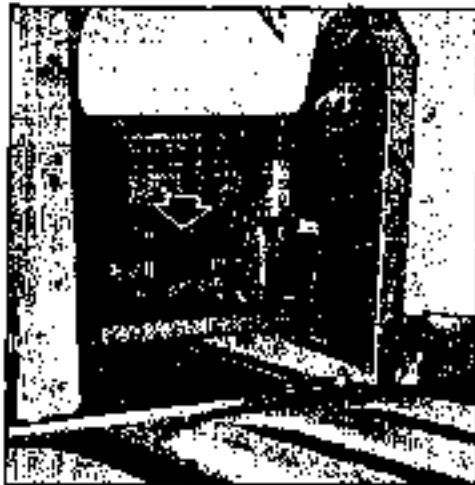

Fig. 5-89 Disconnect torque tube
- (1) Disconnect torque shafts connecting stop assembly with actuator on R. H. and flap main reduction gear with inboard actuator on L. H. Place flap in fully extended position by rotating torque shaft by hand.
- (2) Check rollers of central main actuator and inboard and outboard actuators for contact with guide rail.
- (3) Disconnect torque tube from inboard actuator gear box at W. STA 664. Disconnect flexible shaft from central main actuator gear box. Rotate actuators individually by hand so that rollers contact with guide rail. (At this time, adjust the number of washers in Fig 5-86 so as not to cause twisting between inboard and outboard flaps. Reassemble torque tubes and flexible shaft.) (See Figs 5-89 and 5-90)